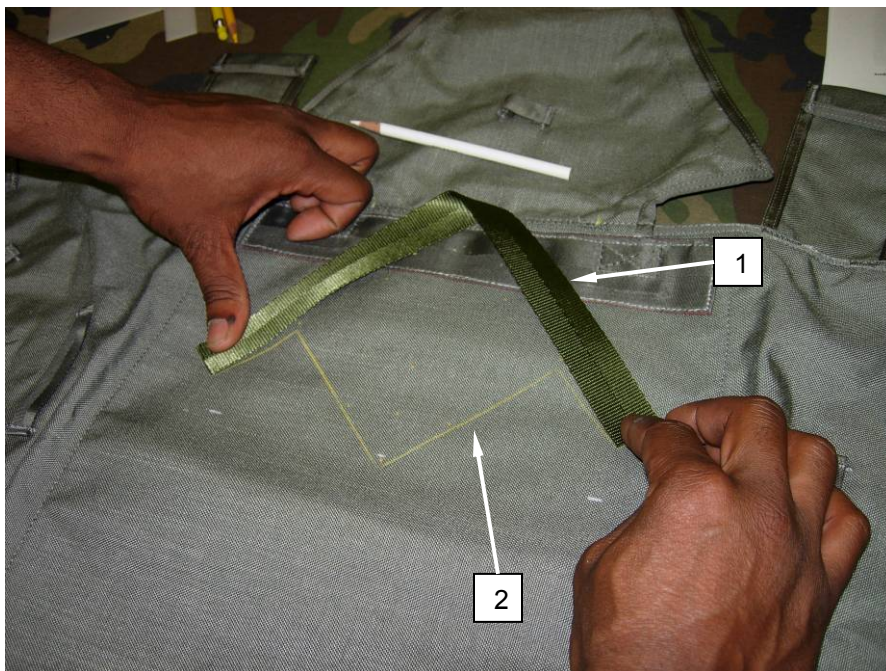

Figure 39. Proper Placement of the Diagonal Back Strap Keeper.
12. Place diagonal back keeper (Figure 39, Item 1) onto the pack tray by aligning with the marks made from the template. Fold the diagonal back strap keeper back onto itself at a 45-degree mark and align with the traced lines made from the template (Figure 39, Item 2).